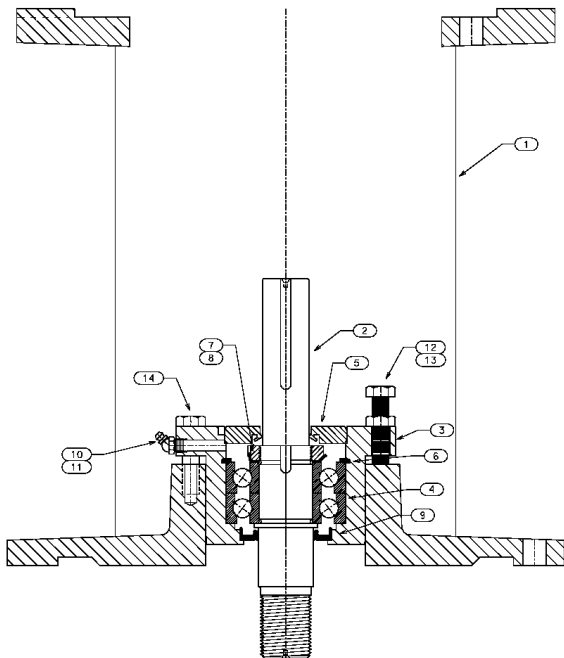

Figure 18 – Grease Lubricated Thrust Pot
- Using the lifting lugs on the motor, carefully lower the motor onto to the motor stand of the thrust pot (See Figure 18) and align the bolt holes.
NOTE: Be sure the relief fitting (#11 in Figure 18) is clear of paint or any other obstructive material. Otherwise it will cause premature failure of the thrust pot and is not covered under warranty.